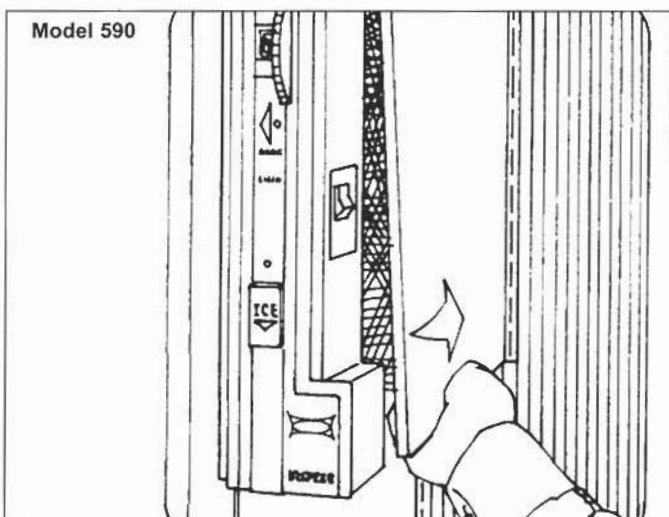
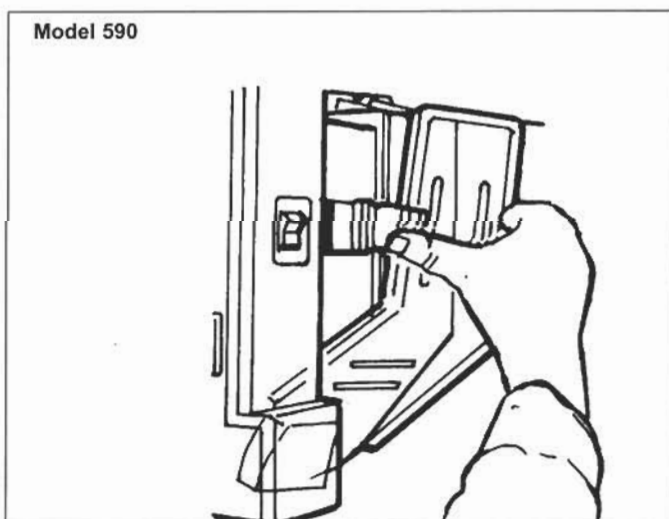

Figure 2-61. Water Tank Cover
Figure 2-65. Ice Chute
1. Remove the water tank cover (Figure 2-61).
The ice chute is mounted to the center mullion wall (Figure 2-65). If there is a blockage in the chute, remove the water tank cover (Figure 2-61), then depress the two tabs so the front portion of the chute can be removed.